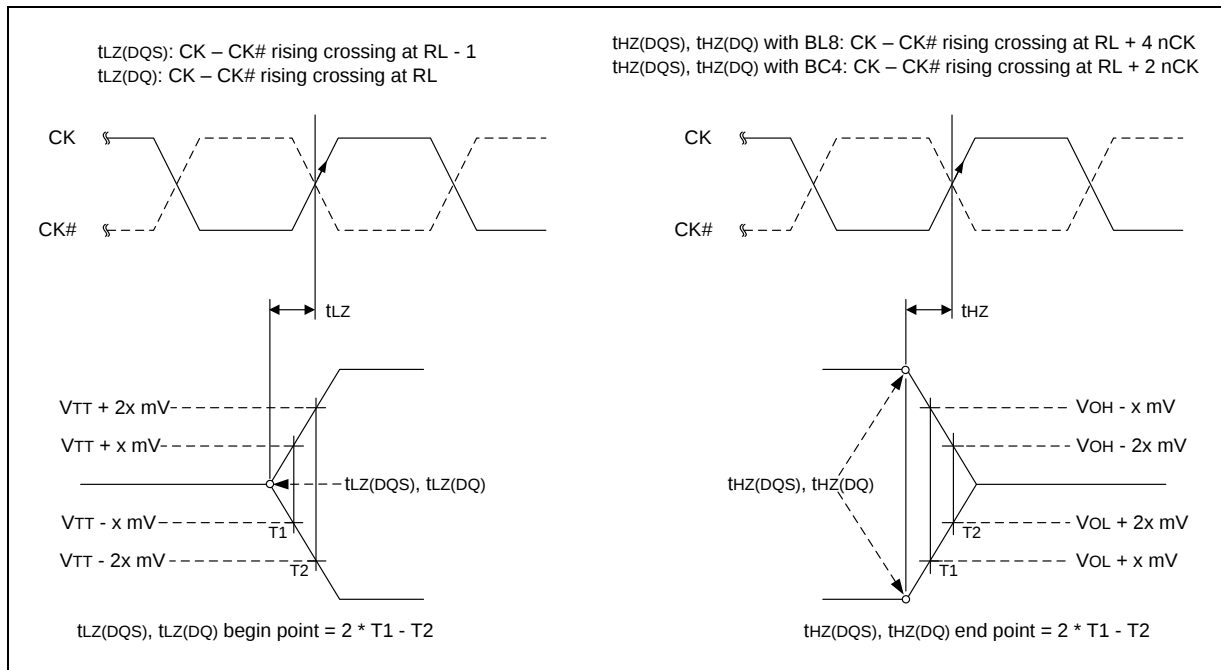

Figure 26 – tLZ and tHZ method for calculating transitions and endpoints
$tlZ(DQS)$, $thZ(DQS)$ for preamble/postamble (see section 8.13.2.3 and Figure 26).
8.13.2.3 tLZ(DQS), tLZ(DQ), tHZ(DQS), tHZ(DQ) Calculation
tHZ and tLZ transitions occur in the same time window as valid data transitions. These parameters are referenced to a specific voltage level that specifies when the device output is no longer driving tHZ(DQS) and tHZ(DQ), or begins driving tLZ(DQS), tLZ(DQ). Figure 26 shows a method to calculate the point when the device is no longer driving tHZ(DQS) and tHZ(DQ), or begins driving tLZ(DQS), tLZ(DQ), by measuring the signal at two different voltages. The actual voltage measurement points are not critical as long as the calculation is consistent. The parameters tLZ(DQS), tLZ(DQ), tHZ(DQS), and tHZ(DQ) are defined as singled ended.